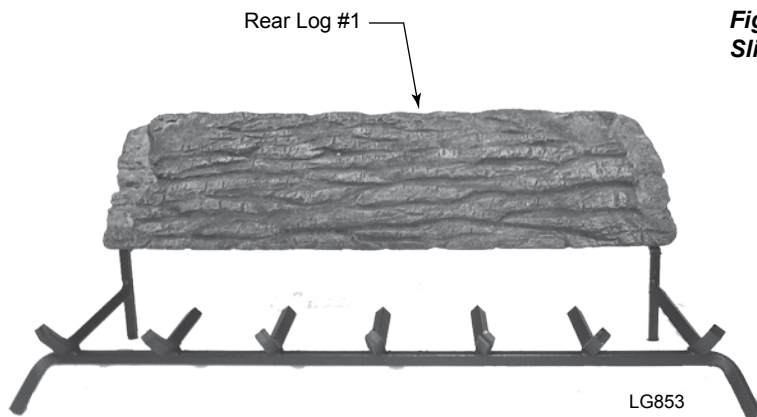

Figure 35 - Center Rear Log on Grate
2. Center rear log #1 on grate bars and flush with rear of the grate. *Figure 35*